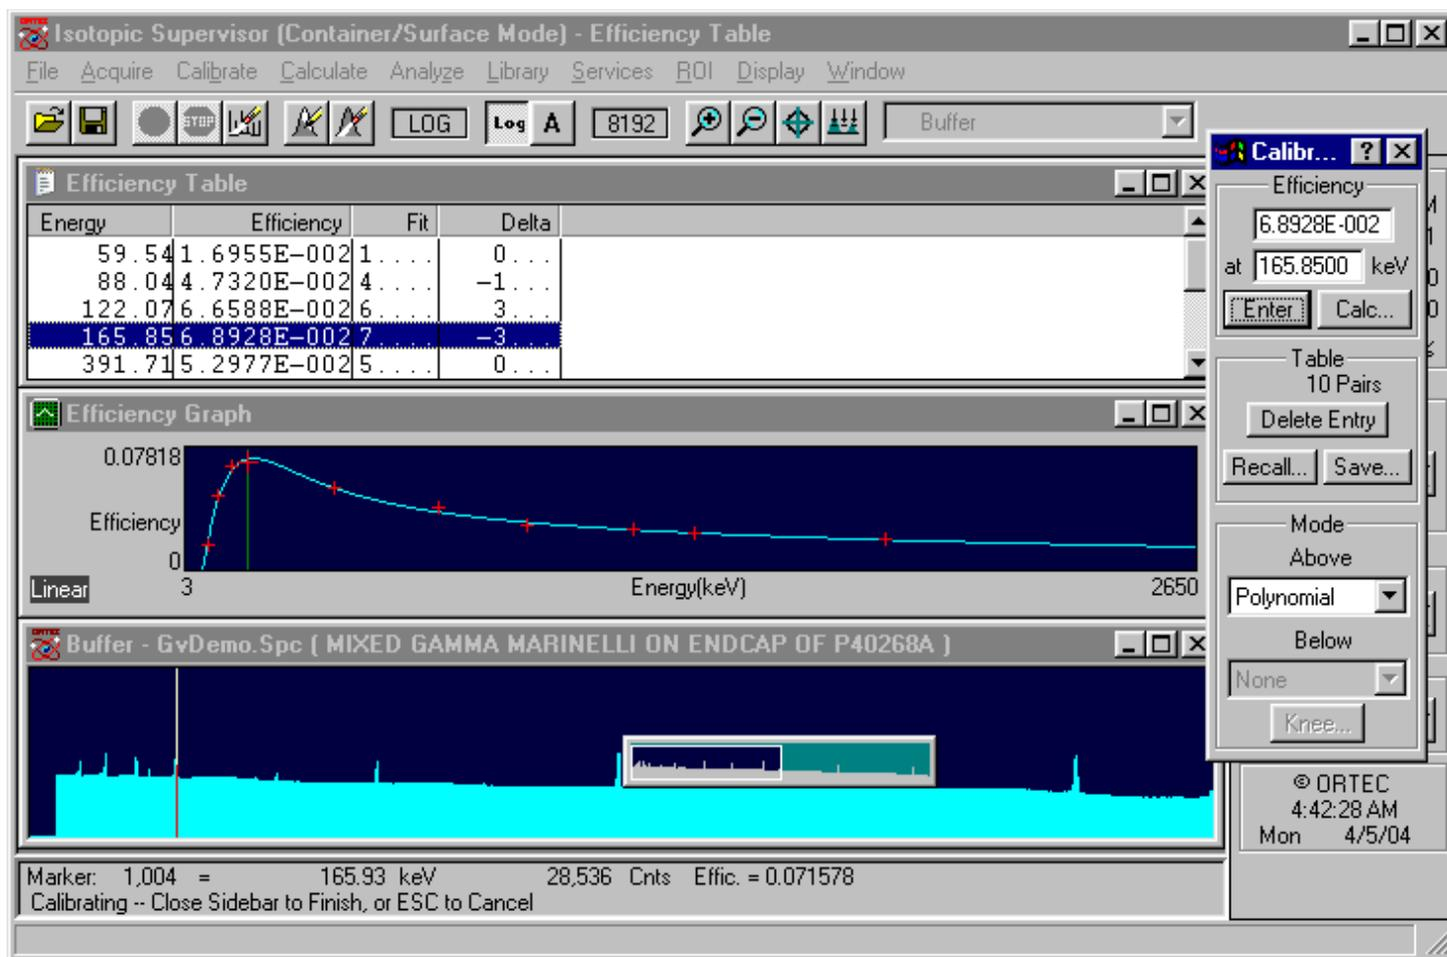
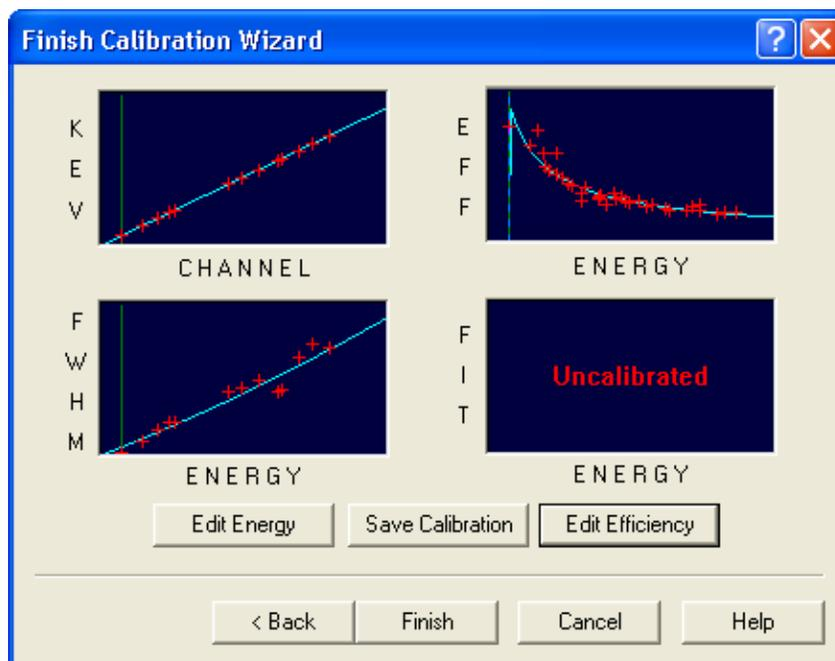

Figure 46. The Efficiency Calibration Sidebar, Table, and Graph.
Figure 51. Review the Calibration Results.
On the Finish Calibration Wizard screen (Fig. 51), you will have the opportunity to review and, if necessary, edit the resulting energy calibration by clicking the **Edit Energy** button.
If the energy calibration process detects a minor error, a warning message is displayed. Click **OK** to acknowledge the warning and remember that this warning was given. The calibration process will continue as normal. When the final review screen is displayed (Fig. 51), click **Edit Energy** to review the cause of the error and correct it if needed (see Section 3.3.2.4).
If you entered this dialog from the main Supervisor screen (Step 1 of this procedure), the Finish Calibration Wizard screen (Fig. 51) will be displayed so that you can observe and/or edit the
- 4) The Finish Calibration Dialog will open (see Fig. 51 on page 77). Click the **Edit Efficiency** button. This will open the Efficiency Calibration Sidebar, Efficiency Table, and Efficiency Graph, as shown in Fig. 46.
To edit an energy already present in the Efficiency Table, click in the table to highlight the entry of interest. This will load the current values into the sidebar (see Fig. 46). Edit the efficiency and peak-energy values as needed, then click **Enter** to update the fit and table, and save the edited file.
When spectrum collection is complete (or the buffer is used), the efficiency calibration will be performed. If successful, the wizard will go to the Finish Calibration Wizard screen (Fig. 51), where you will have the opportunity to review and, if necessary, edit the resulting energy calibration by clicking the **Edit Efficiency** button (see Section 3.3.2.2).
The final wizard screen is the review screen shown in Fig. 51. This shows the plots of the results of all the calibration steps. (Ignore the TCC fit view in the lower right corner.) To review and/or edit the energy or FWHM calibration, click **Edit Energy** (Section 3.3.2.5). To review or edit the efficiency calibration, select **Edit Efficiency** (Section 3.3.2.6).
From the Finish Calibration Wizard screen, click the **Edit Efficiency** button. This will open the Efficiency Calibration Sidebar, Efficiency Table, and Efficiency Graph. Expand the spectrum horizontally to show the peaks completely (Fig. 46).